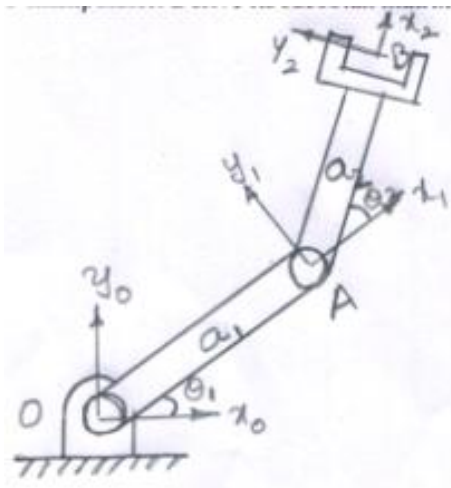

FIG.5
8. Derive the Conventional Jacobian of a planar 2-DOF manipulator shown in fig.5 (12 M)